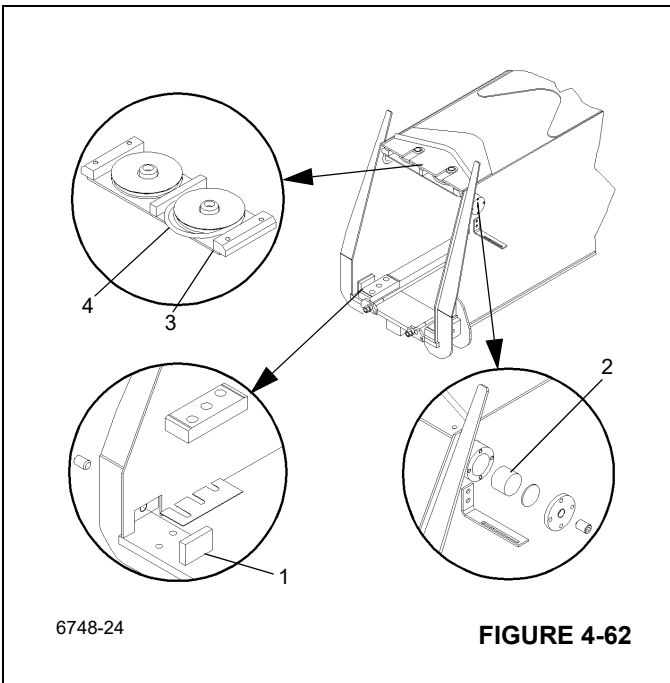

FIGURE 4-62
1. Insert the adjustable brass wear pads (1), (Figure 4-62) and the upper wear pads (2), (Figure 4-62). Do not install the bottom wear pads at this time.
3. Assemble the mid-syncro cable sheave assembly (3), (Figure 4-62) and lay it on top of the outer mid section about where it will go.
- a. Reeve the mid-syncro cables (4), (Figure 4-62) around the sheaves.